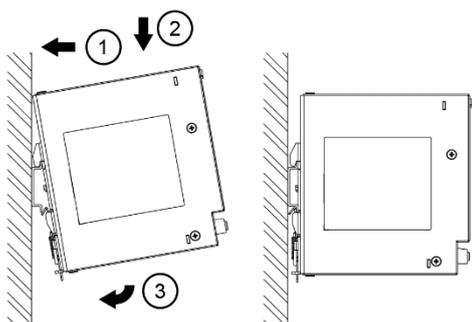

Fig. 7.1 Mounting
1. Tilt the unit upwards and insert it onto the DIN rail. Snap on the DIN rail as shown in Fig. 7.1.